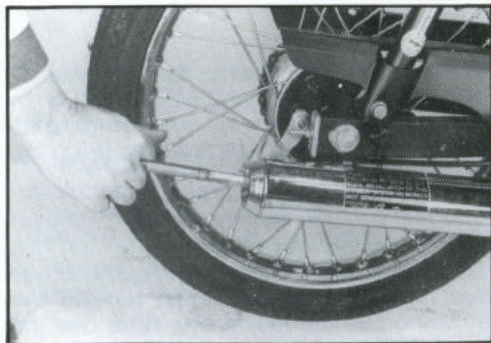

Fig. 18
- 1) Loosen screw with a 10 mm. socket wrench (Fig. 18).